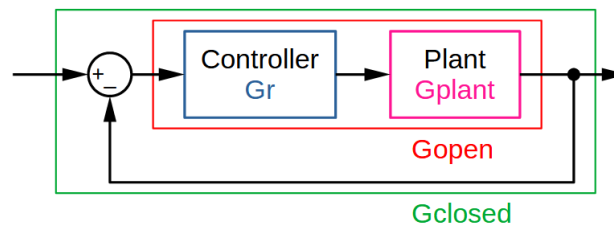

Figure 37: Signal colors according to transfer functions in the control loop.
- ♦ **Bode:** The amplitude response and the phase response of the axis are plotted. The signal colors match to transfer functions as following (see also Figure 37).